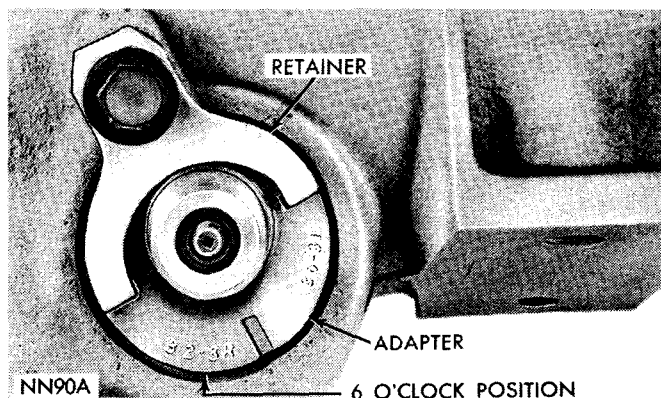
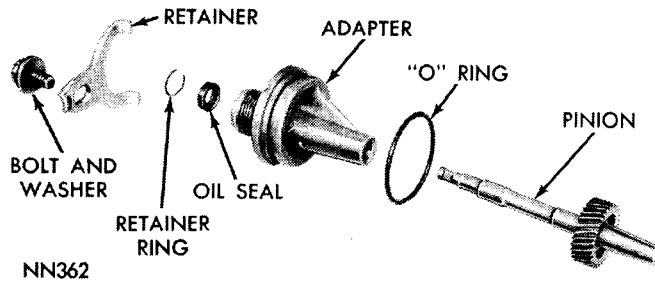

Fig. 40—Speedometer Pinion and Adapter—Installed
Fig. 41—Speedometer Pinion and Adapter—Disassembled
(40) Install speedometer drive pinion gear and adapter being sure range number, stamped on outside of adapter, representing number of teeth on gear, is in 6 o'clock position (Fig. 40).
(1) Place drain pan under adapter or drain transmission.
(2) Remove bolt and retainer securing speedometer pinion adapter to extension housing (Fig. 40).
(3) With cable housing connected, carefully work adapter and pinion out of extension housing.
(4) If transmission fluid is found in cable housing, replace seal in the adapter (Fig. 41). Start seal and re-
(5) Note number of gear teeth and install speedometer pinion gear into adapter (Fig. 41).
(6) Rotate the speedometer pinion gear and adapter assembly so that the number on the adapter, corresponding to the number of teeth on the gear, is in the 6 o'clock position as the assembly is installed (Fig. 40).
(7) Install retainer and bolt, with retainer tangs in